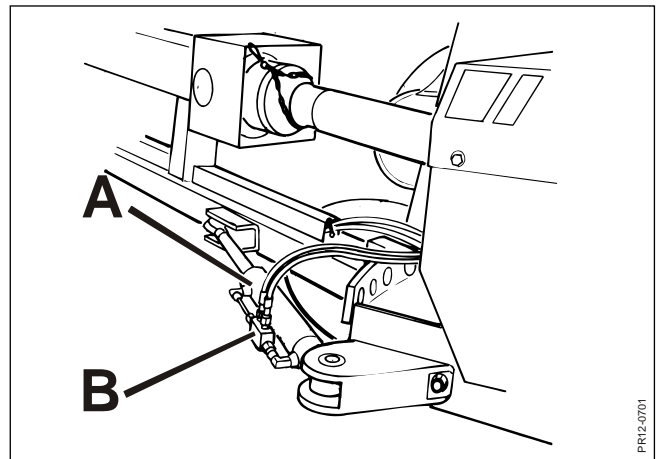

Fig. 3-10
- Fig. 3-10** The machine is fitted with equipment **A** for hydraulic adjustment of the drawbar. The hydraulic cylinder is equipped with a safety valve **B** which ensures that the machine does not make any unintentional turns in case of leaking hoses.